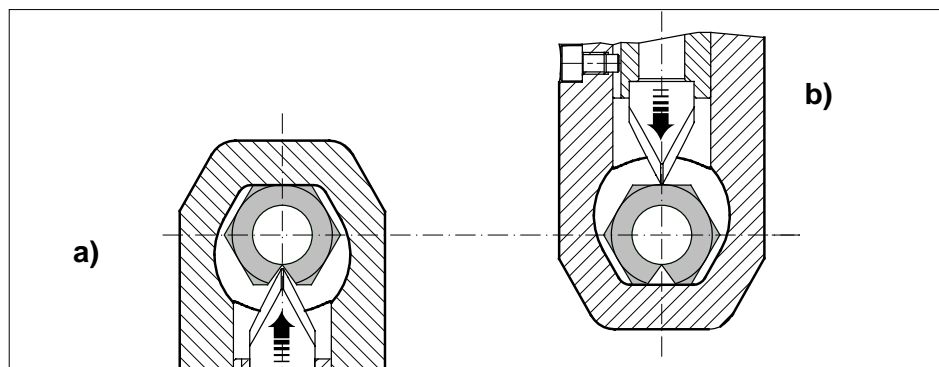

FIG. 2 NUT SPLITTING - CASSE DE L'ECROU - SCHNEIDEN DER MUTTER - CORTE DE LA TUERCA - TRANCIATURA DADO
2.3) Splitting (Ref. to Fig. 2)